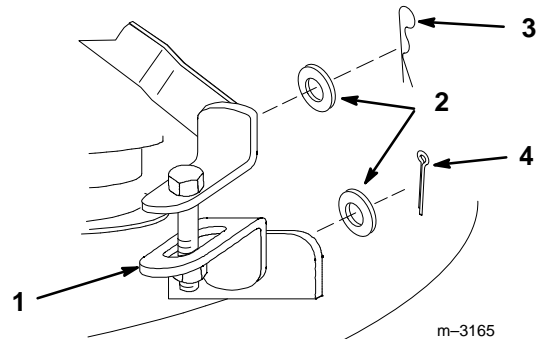

Figure 7
8. Install adjustable link between front bracket and lift arm with (2) 3/8" washers, a 2-9/16" hairpin cotter, and a 1" cotter pin (Fig. 7).